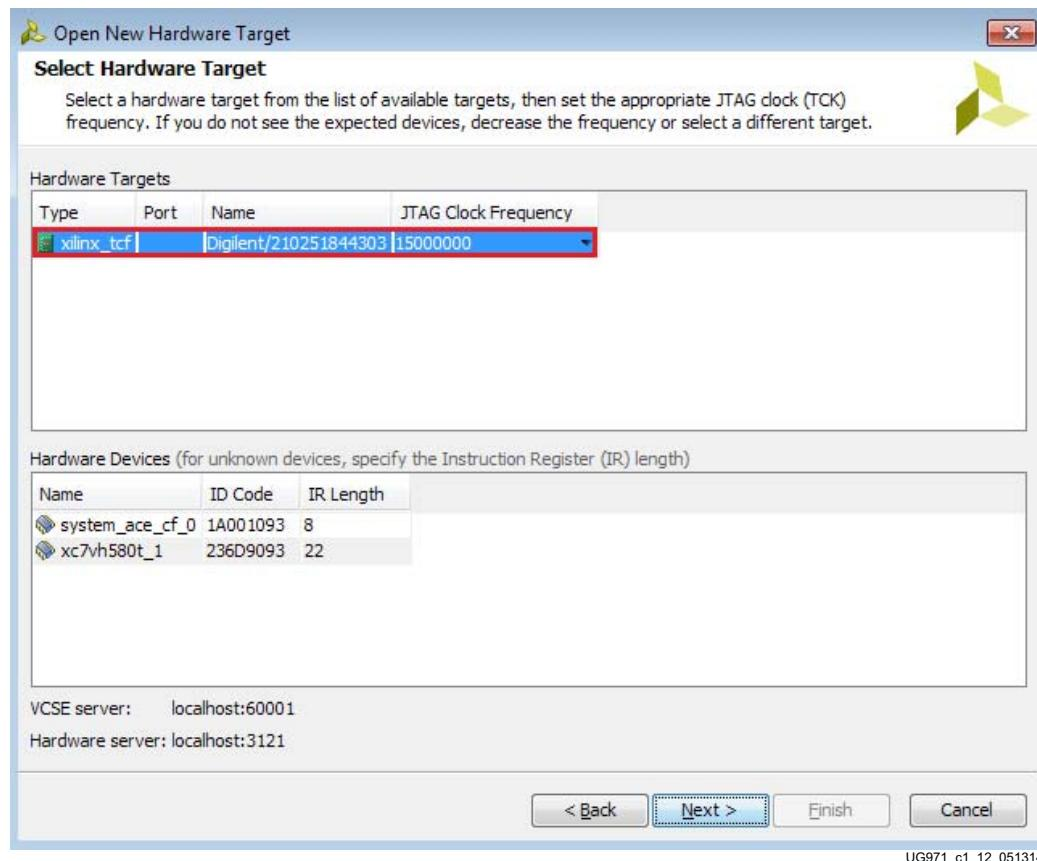

Figure 1-12: Select Hardware Target
5. In the Select Hardware Target window, the `xilinx_tcf` cable appears under Hardware Targets, and the JTAG chain contents of the selected cable appear under Hardware Devices (Figure 1-12). Select the **xilinx_tcf target** and keep the JTAG Clock Frequency at the default value (15 MHz). Click **Next**.